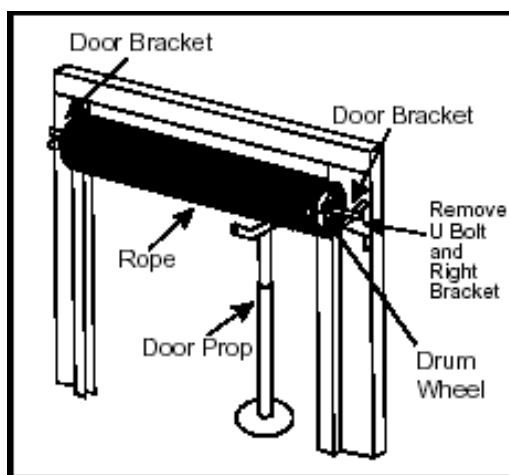

Fig 2
4. Move the door up and use a rope to bind the door in the middle. (Fig 2)